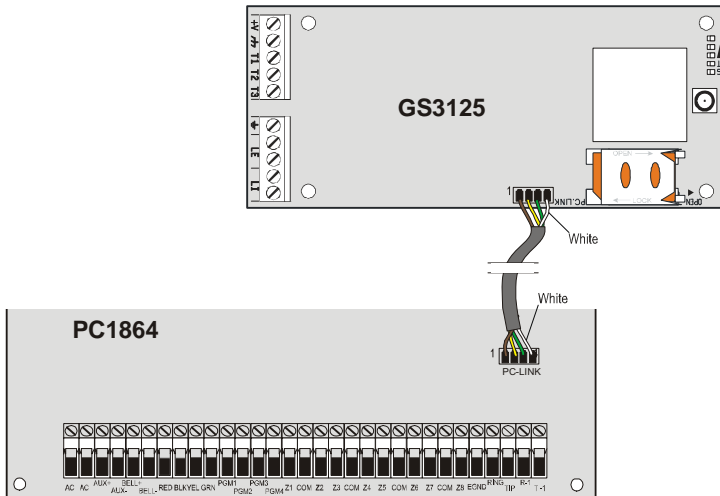

Fig. 6 - Connecting the Communicator to a DSC Power Series control panel via a PCLINK-PCLINK cable.
To connect the Power Series PC1864 control panel to the GS3125 Communicators you will need a PCLINK-PCLINK cable (see Figure 6) connecting the PC-LINK connector [9] on the Communicator with the PC-LINK connector on the control panel, making sure that you insert the connector the right way round.
**CAUTION:** connect the PCLINK/PCLINK cable as shown in Figure 6, please note that the white wire on the PCLINK-PCLINK cable connector must be connected to pin 4 of the PC-LINK connector on the Communicator and on the control panel.